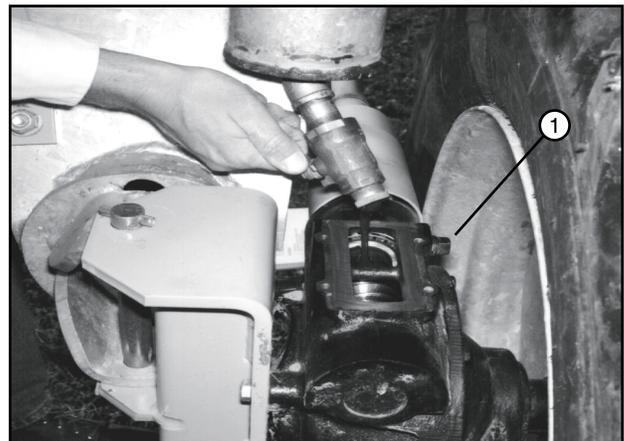

Figure 47-3 1. Check Plug
- Fill gearbox to the top of worm gear shaft or remove the check plug and fill until the oil begins to flow out of the check plug hole. See figure 47-3.